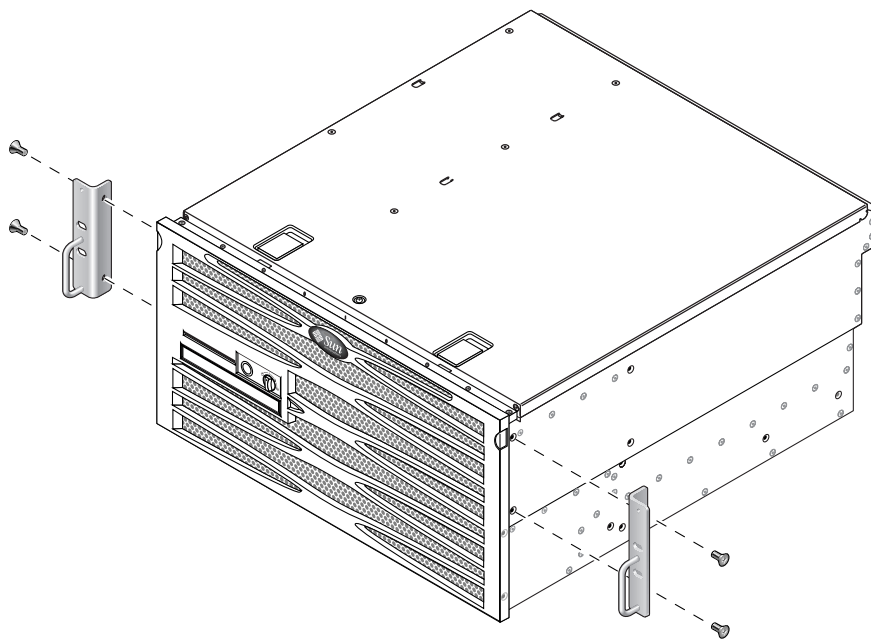

FIGURE 3-7 Securing the Hardmount Bracket to the Server
2. **Using four of the supplied M5 × 8 mm flathead Phillips screws (two screws for each bracket), secure the hardmount brackets to the sides of the server** (FIGURE 3-7).